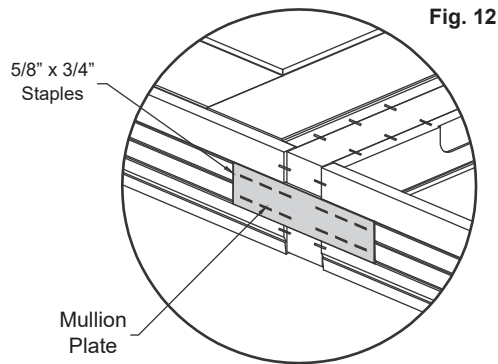

Fig. 12
- For windows, attach the mullion reinforcement plate across the mull at the head jamb and sill using twelve 5/8" x 3/4" staples on each mull plate (6 on each side of the mull joint). For patio doors, attach the mullion reinforcement plate on the head jamb only. See Figure 12.